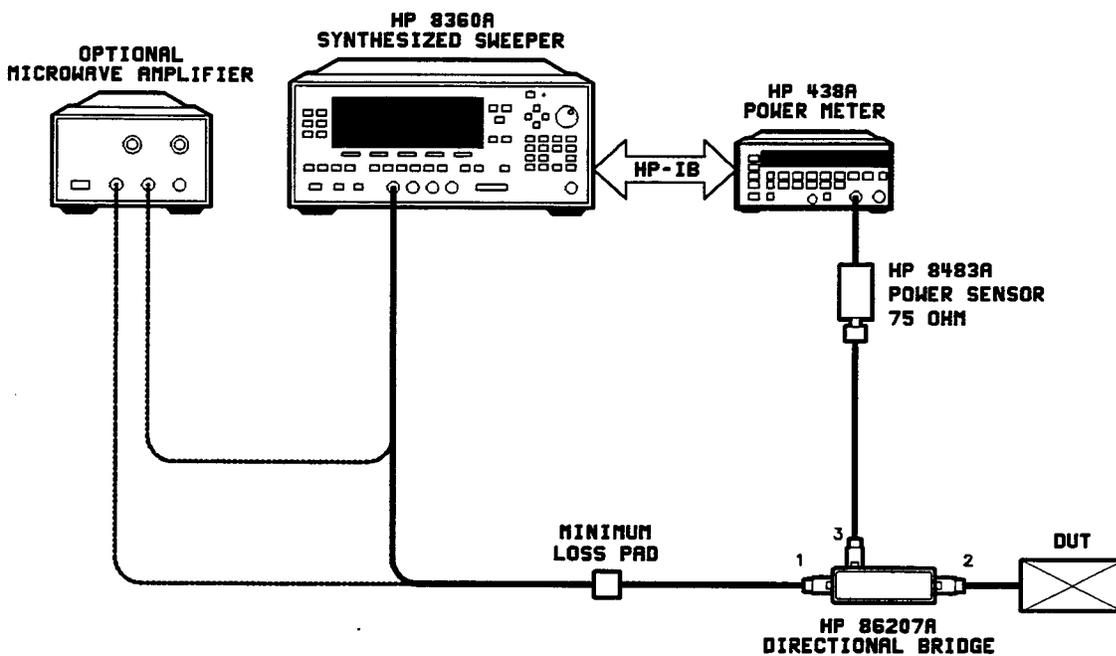

Figure 2-5. External Power Leveling Configuration
The measurement configuration shown in Figure 2-5 provides precision power levels to a remote DUT. With a power meter and bridge, the source power can be monitored and automatically adjusted.
1. Connect the equipment as shown in Figure 2-5.
5. Connect the power sensor to the bridge as shown in Figure 2-5.